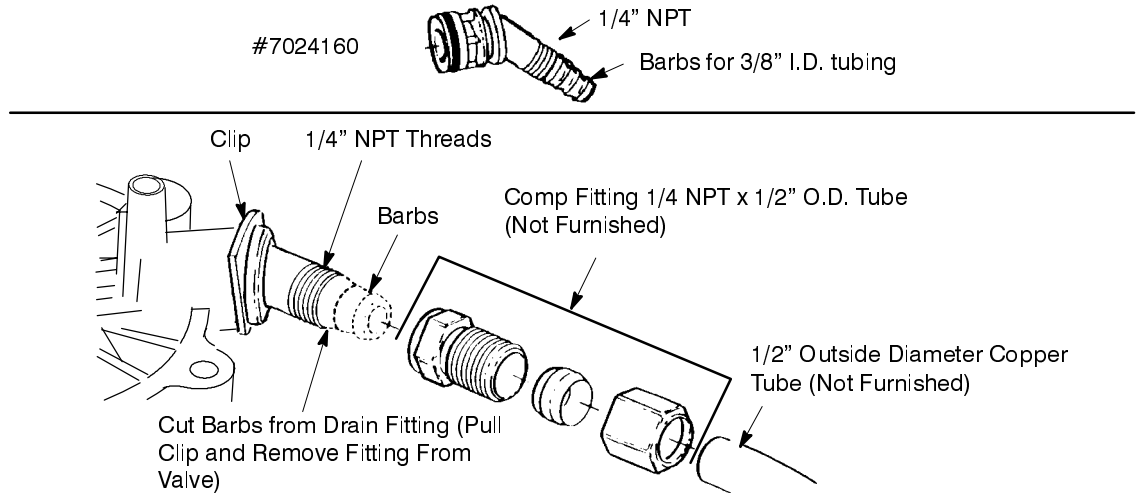

Figure 4
***VALVE DRAIN OPTIONS:** Flexible drain hose is not allowed in all localities (check your plumbing codes). For a rigid valve drain run, cut the barbed section off the drain fitting for access to the 1/4" pipe threads. Then plumb a rigid drain as needed (see Figure 4).
1. Connect a length of 3/8" or 7/16" I.D. hose (check codes) to the valve drain elbow, on the controller, see Figure 4. Use a hose clamp to hold the hose in place. Route the hose out through the notch in the Faceplate Cover.